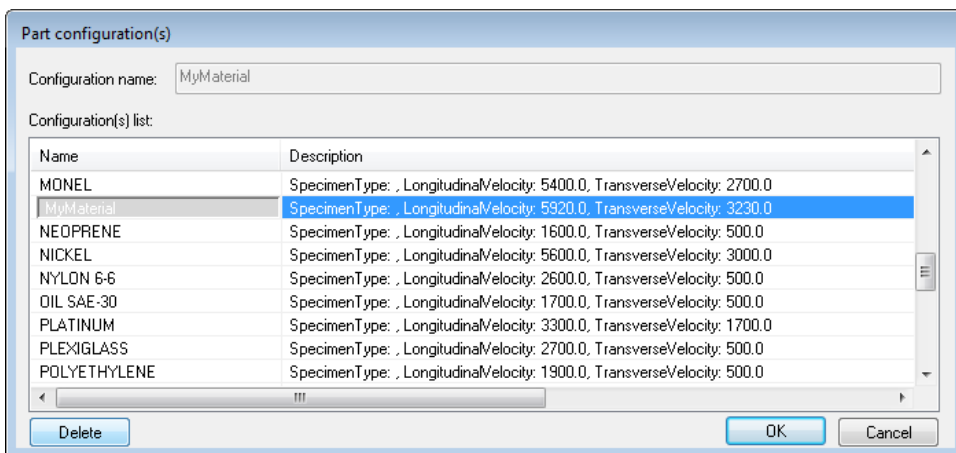

Figure 10-6 Deleting from the Material Configuration dialog box
3. Click **OK** to close the dialog box (see Figure 10-6 on page 138).